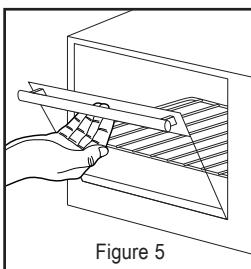

Figure 5
**Step 2:** Pull down the oven door carefully (see Figure 5).